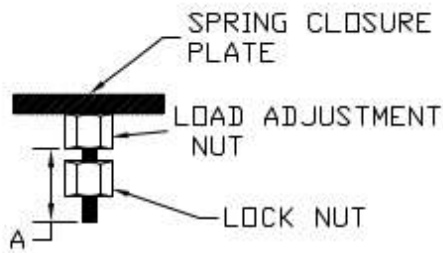

Figure 19C
3. Backup the lock nut from the load adjustment nut located on the spring rod. Measure the distance between the edge of the spring rod and the outer surface of the load adjustment nut, marked "A" in figure 19C (page 22).